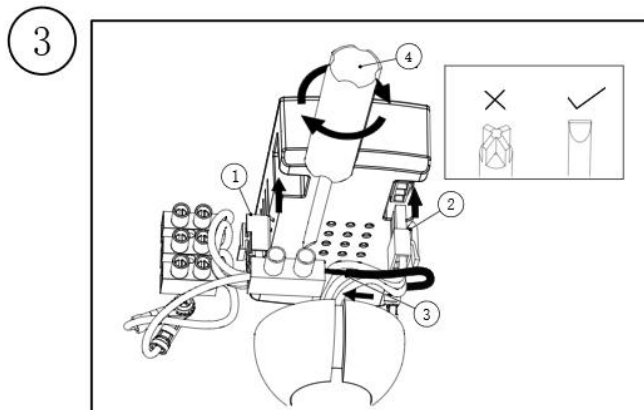
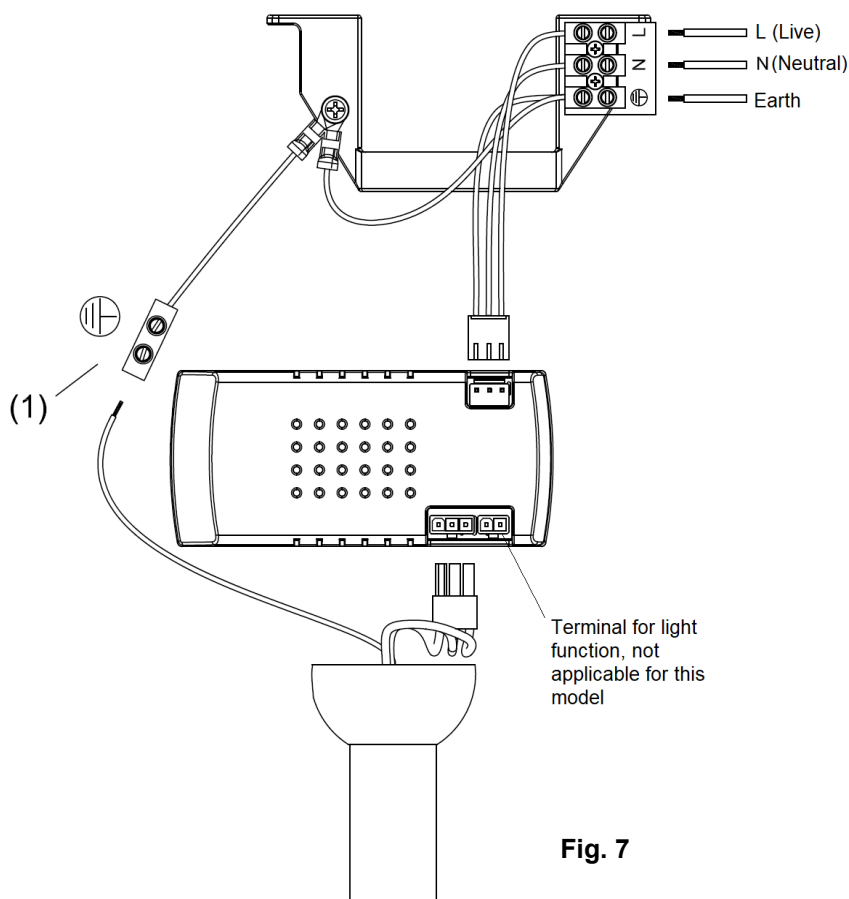

Fig. 6.3
Fig. 7
3. Connect the wiring (Fig.6.3 & **Refer to the wiring diagram in Fig.7 for more information**)
WIRING DIAGRAM (FIG. 7)
(Fig. 7)